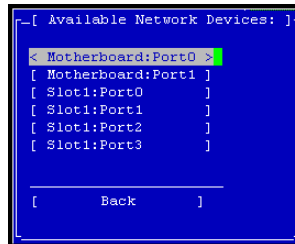

Figure 226. Available Network Devices Window
1. On the Configuration Interface main menu, tab to Network TCP Status and press Enter. The Available Network Devices window opens, shown in Figure 226.